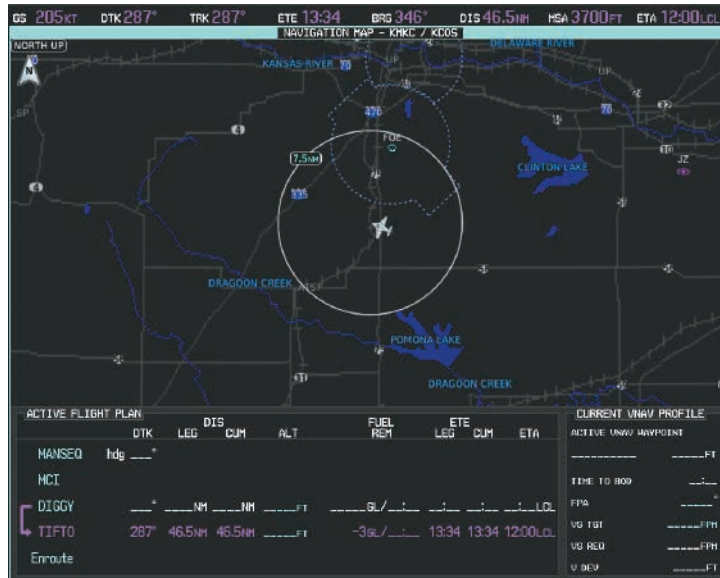

Figure 5-157 Assigned Heading of 290°
- 3) ATC now assigns routing to join V4. A heading of 290° is assigned to intercept V4. The aircraft turns to heading 290° as seen in Figure 5-157.